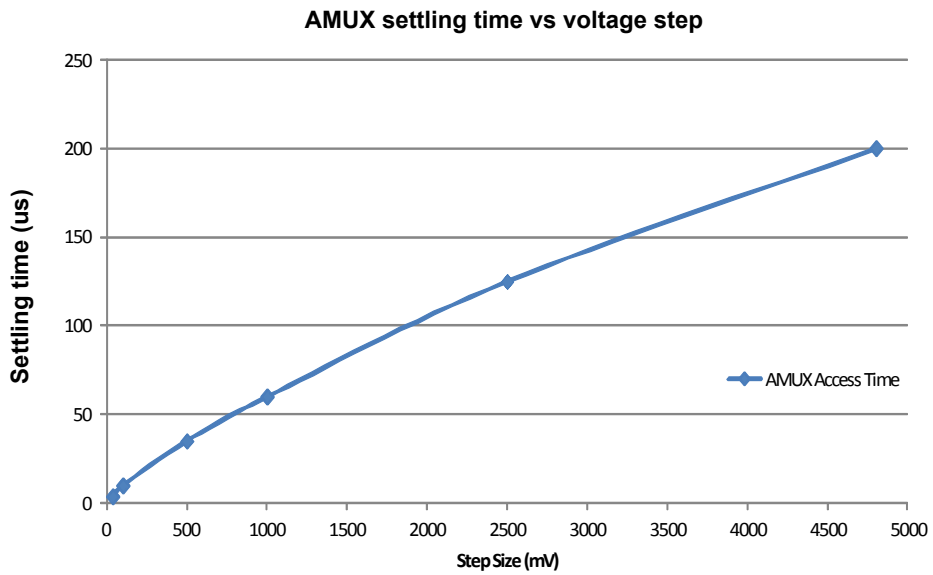

Figure 9. AMUX access time waveform
- 25. AMUX settling time to be within the 10 mV offset specification. $AMUX_{VALID}$ is dependant of the voltage step applied on the input SGx/SPx pin or the difference between the first and second channel selected as the multiplexed analog output. See Figure 9 for a typical AMUX access time VS voltage step waveform.